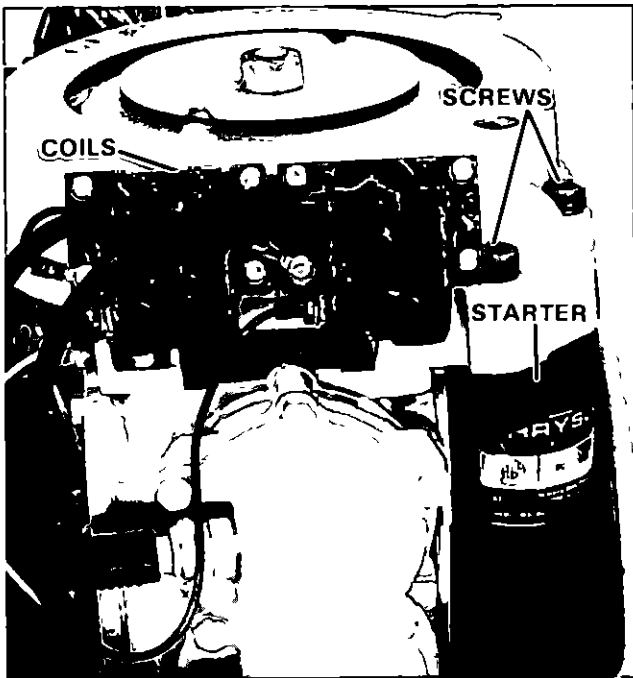

Figure 11. Removing Coils and Starter
- 2 Remove coils, lay in support plate, Figure 11